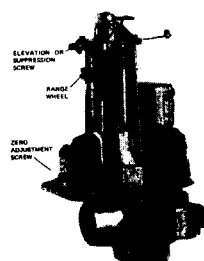

FIG. 4 – PRESSURE TRANSMITTER COVER REMOVED
3. Set span at calculated set point as follows: (Refer to Fig. 4)